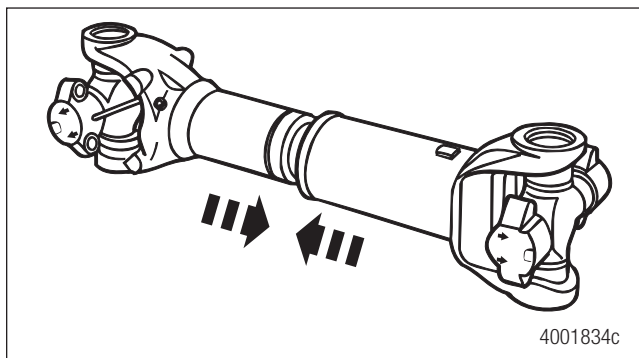

Figure 9.14
8. Push together the driveline sections. Figure 9.14.